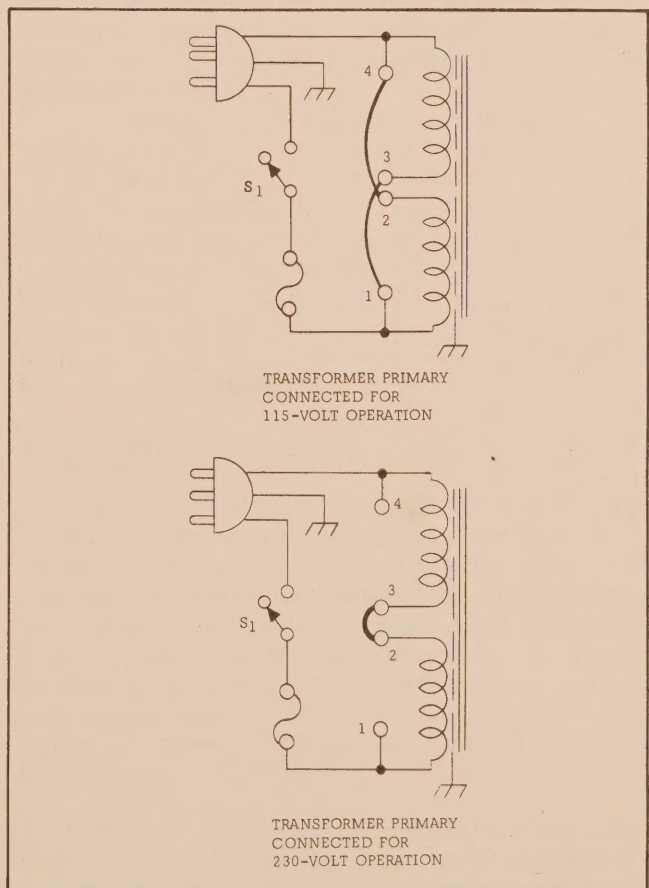

Figure 2-1. Input Power Transformer Connections
2-15 CONNECTIONS FOR 230 VOLT OPERATION (Figure 2-1)
- b. Remove the jumpers between taps 4-2 and 3-1. Solder a jumper between taps 3-2 on the input power transformer T1, see Figure 2-1.